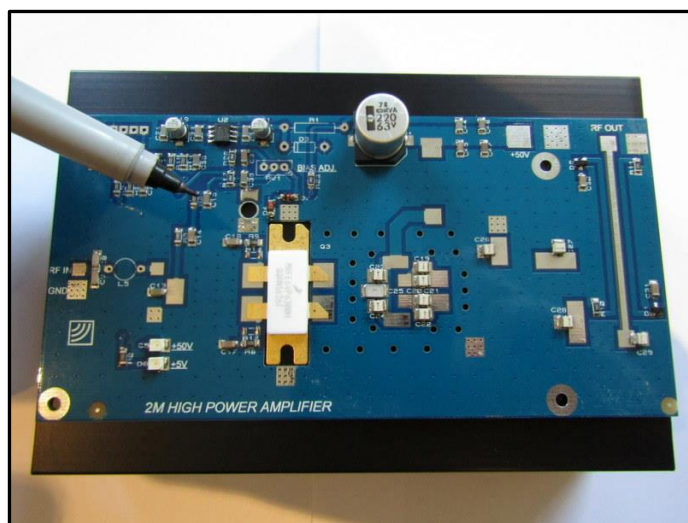

Figure 1: Marking the heatsink for drilling.
2. Lay the PCB on top of the heatsink and place the MRFE6VP6300H power transistor into its cut-out in the centre of the board. Using a fin-tip marker or scribe, mark the 5 holes in the PCB and a further two holes for mounting the transistor. See figure 1.